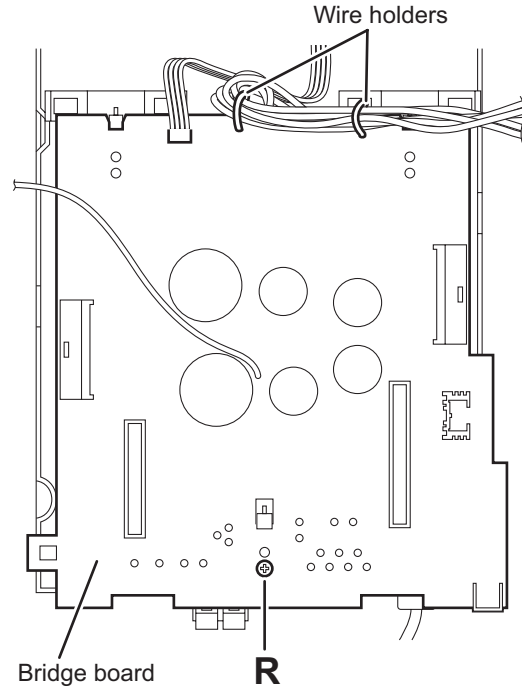

Fig.20
3.1.12 Removing the primary board (See Fig.20)